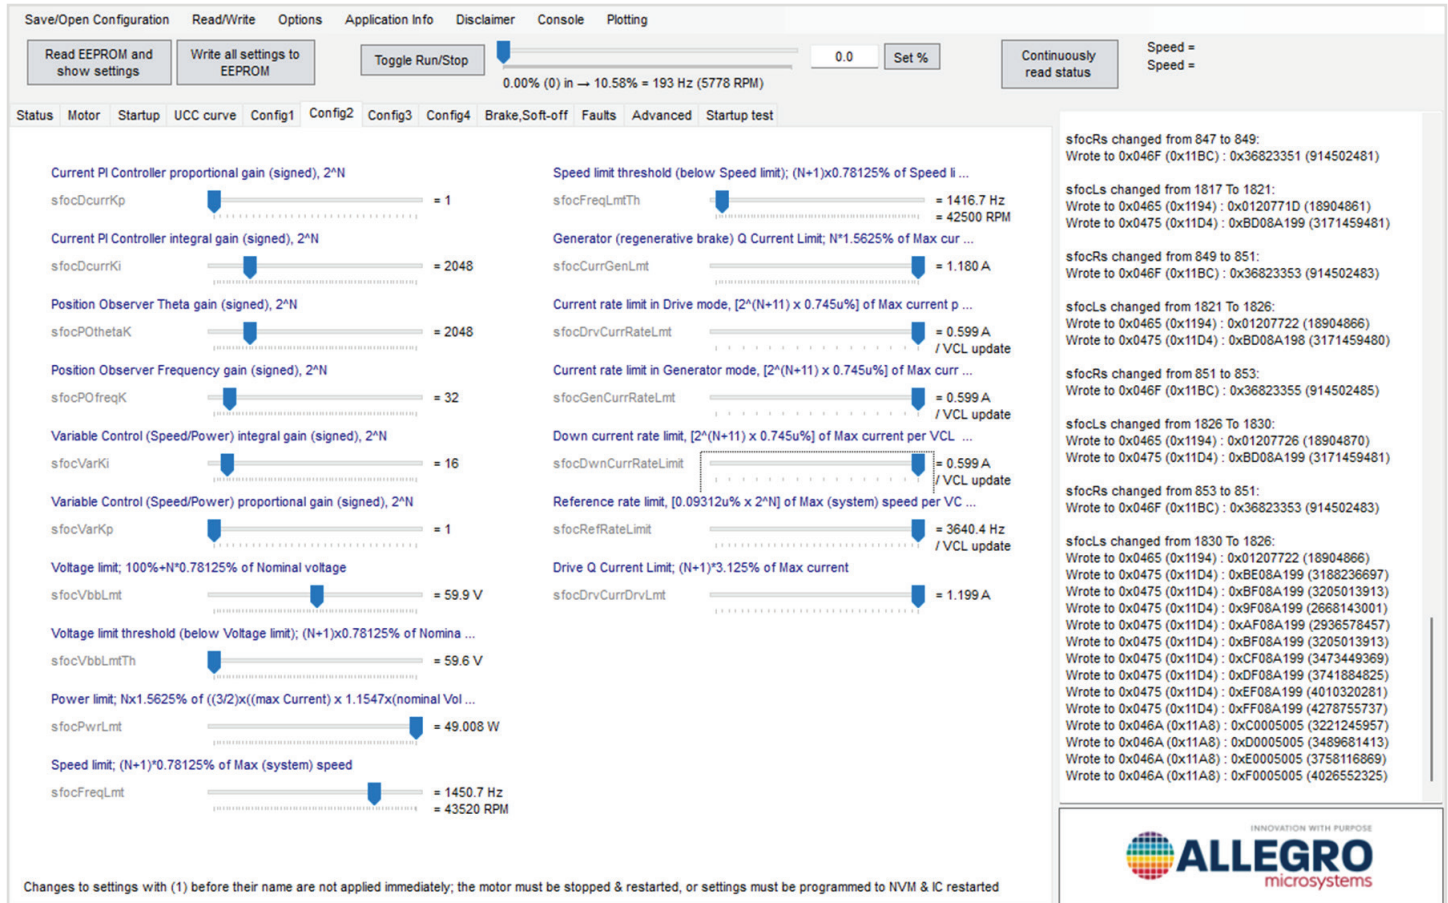

Figure 12: Config2 Tab—Set Limits and Rates to Maximum
- All the rate-limit variables on the Config2 tab: Select the highest value to avoid the limiting action of these controls, as shown in Figure 12.